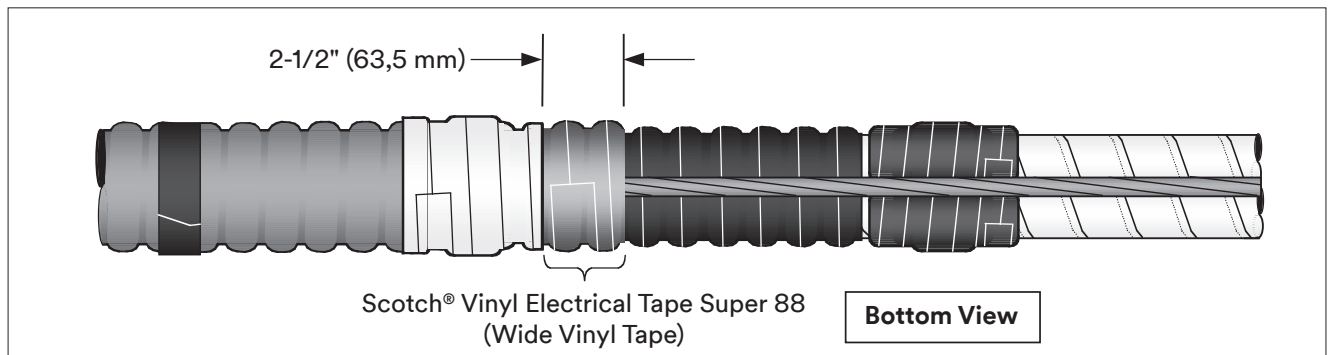

Figure 5
- 3.8 Bind cable ground wire with four half-lapped layers of Scotch® Vinyl Electrical Tape Super 88 (wide vinyl tape) (Figure 5). Limit width of tape wrapping to approximately 2-1/2" (63,5 mm).